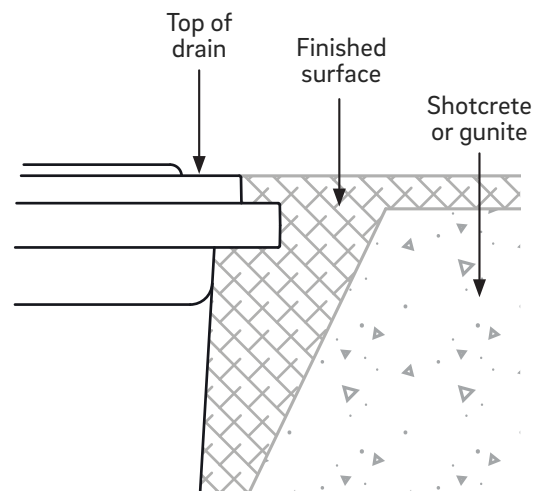

Figure 18
2. To ensure a watertight seal, properly apply a drypack under and around the void surrounding the water stop. The finished surface should be flush with top of drain (Figure 18).